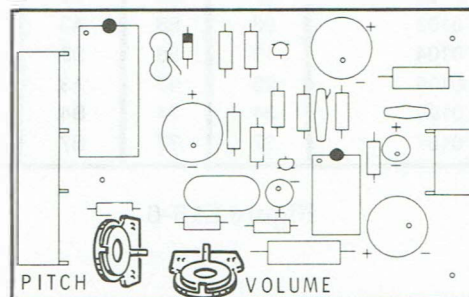

Figure E15-7
16. On the voice synthesis board, locate the Pitch and Volume controls indicated in Figure E15-7.